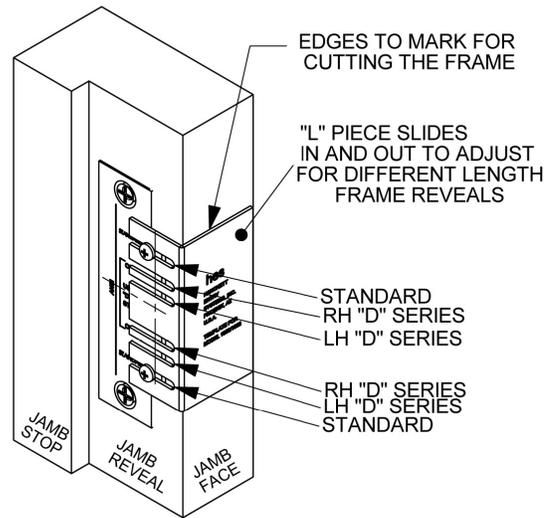
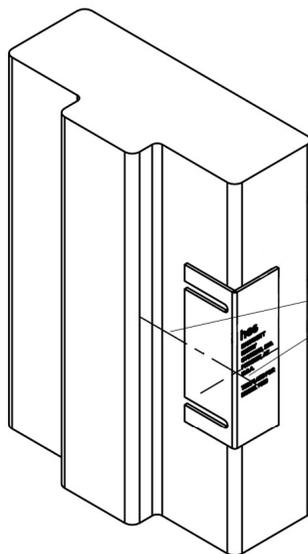

Figure 4
Figure 5
1. ADJUST the "L" piece slide for the applicable length of the different frame reveals (see Figure 4 (for 1006, 1500, and 1600), and Figure 5 (for 4500, 5000, 5200, 7000, and 7501)).